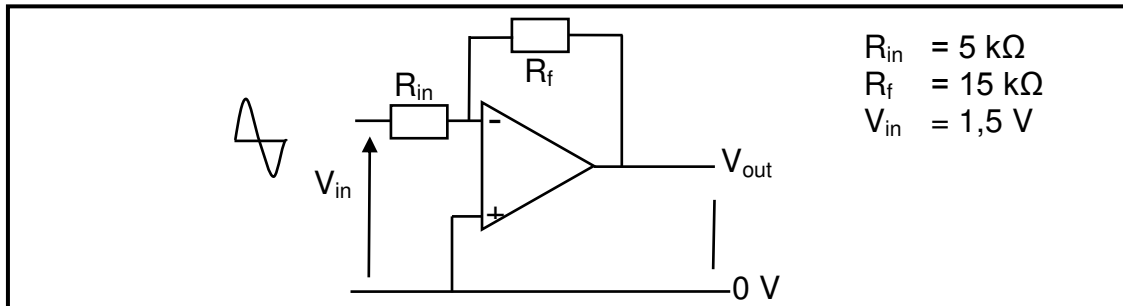

FIGURE 7.1: OP-AMP CIRCUIT
7.6 Study FIGURE 7.1 and answer the questions that follow.
- 7.6.1 Identify the op-amp circuit in FIGURE 7.1. (1)